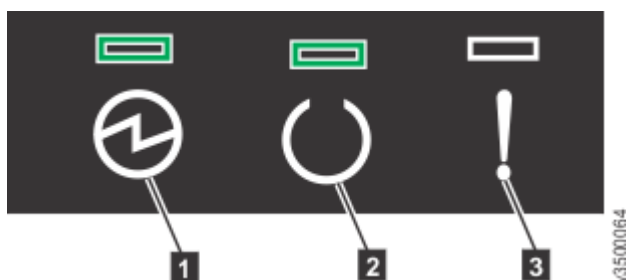

Figure 33. Expansion enclosure LEDs
2. From the rear of the rack, check the LEDs on each expansion enclosure (see Figure 33 on page 73).